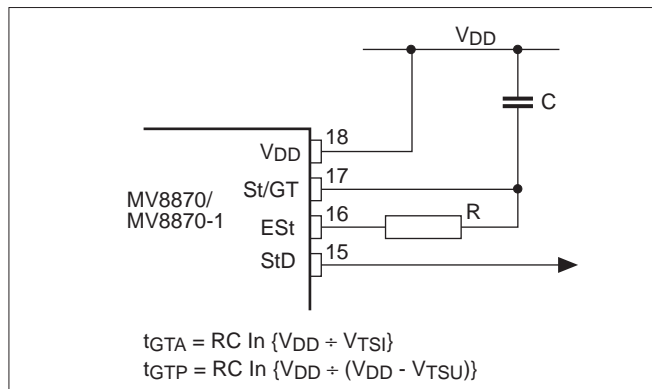

Figure 4: Basic Steering Circuit
Before registration of a decoded tone-pair, the receiver checks for a valid signal duration (referred to as (character recognition condition). This check is performed by an external RC time constant driven by ESt. A logic high on ESt causes the voltage at the SVGT pin ( $V_{SVGT}$ ) to rise as the capacitor discharges (see Figs.4 and 5).
In many situations not requiring separate selection of tone duration and interdigit pause, the simple steering circuit shown in Fig.7 is applicable. Component values are chosen according to the formulae (see Figs. 4, 8a and 8b):-
- 3.  $t_{GTP}$  and  $t_{GTA}$  are adjustable via external RC network at pins 16 and 17 (see Fig. 4).